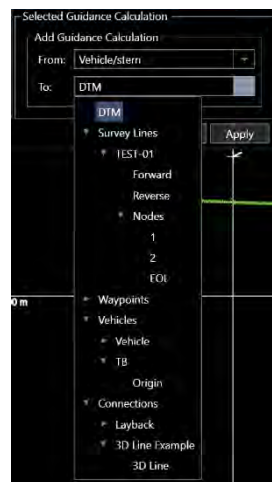

FIGURE 12-7 SELECT TO OBJECT
- Expand the **To** drop-down button to select the *To* object. The **To** items are either DTMs, points, lines or 3D polylines and are presented in a hierarchical tree as shown in (see Figure 12-7). In the case of Survey lines and pipe lines, if being selected as a line versus one of its nodes, the direction the line is being tracked must be selected.